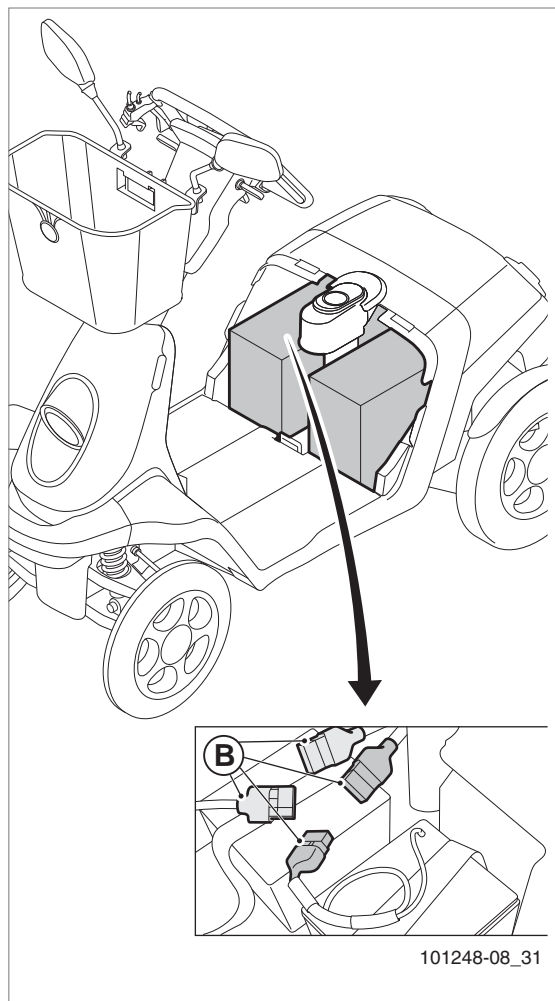

Figure 25
- Detach battery cables (figure 25), or regularly charge the batteries